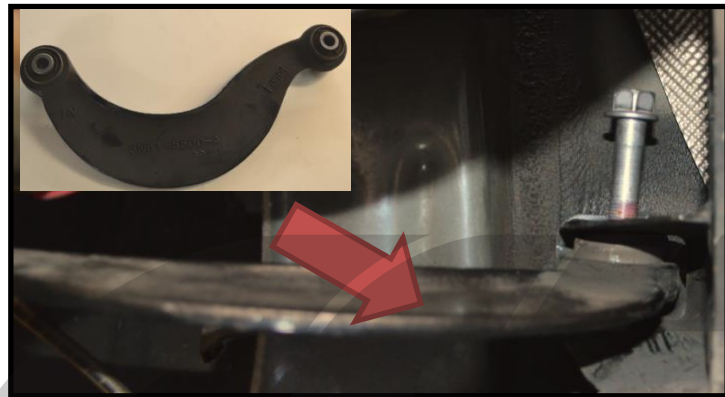

Figure 1a
Figure 1a shows the camber arm from under the vehicle.
- c) **Start by locating the old camber arm under one side the vehicle forward of the strut mount.** **Figure 1a** shows the camber arm from under the vehicle.